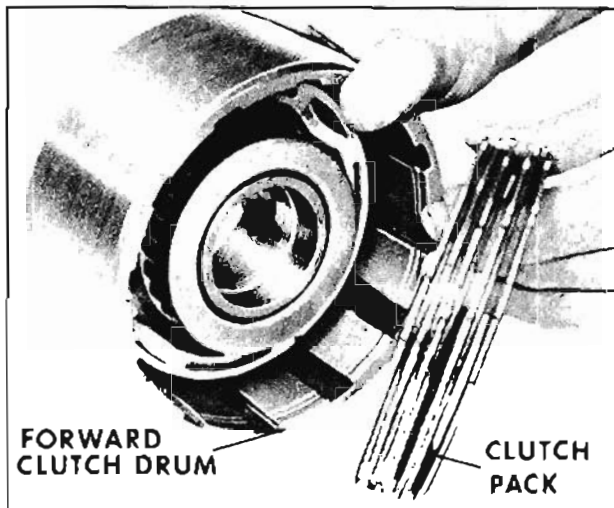

Fig. 6-351 Removing Clutch Pack
6. Remove clutch pack from forward clutch drum. (Fig. 6-351)